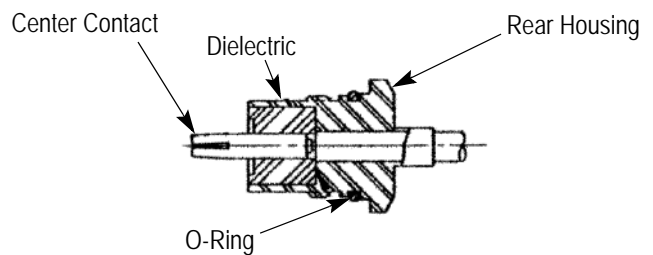

Figure 6
2. Assemble the O-ring onto the rear housing as shown in Figure 6.